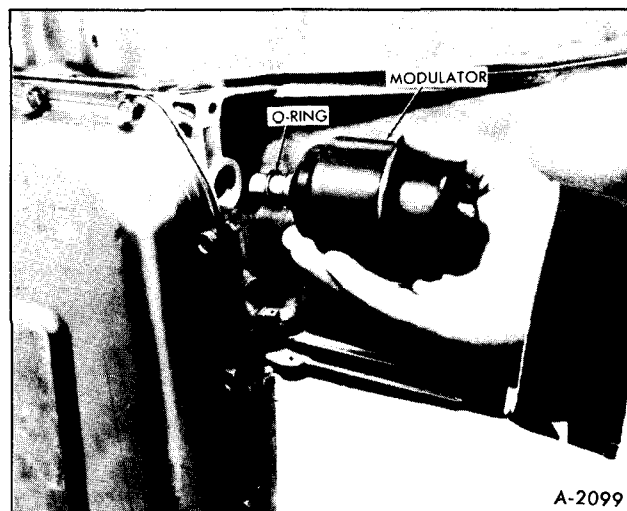

Figure 34—Removing Vacuum Modulator
2. Remove modulator assembly and O-ring from transmission case. Remove and discard O-ring from vacuum modulator, Figure 34.